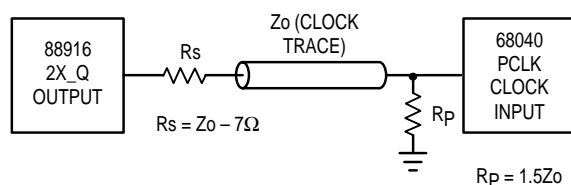

Figure 3. MC68040 PCLK Input Termination Scheme
- The pulse width spec for the Q and 2Q\_X outputs is referenced to a VCC/2 threshold. To translate this down to a 1.5V reference with the same pulse width tolerance, the termination scheme pictured in Figure 3 must be used. This termination scheme is required to drive the PCLK input of the 68040 microprocessor with the 88916 outputs.